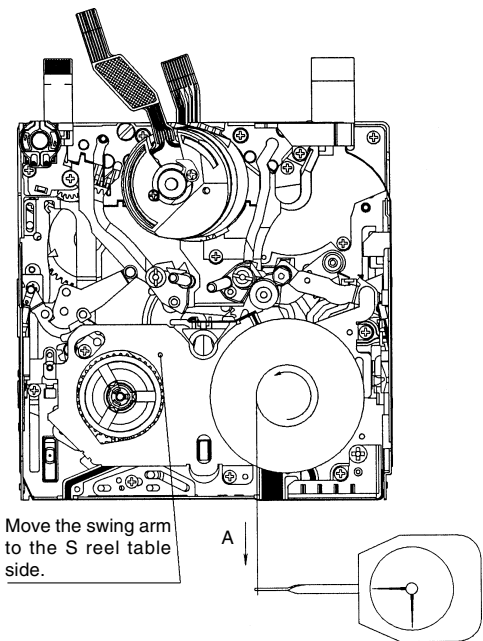

Fig.7 How to measure the loading back tension
- (1) Apply 3 to 4V DC to the loading motor and select the L start mode. (See 9-1.)
- (2) Move the swing arm to the S reel table side. At this time, take care not to damage the gears etc. (See Fig.7.)
- (3) Set the reel hub for back tension measurement on the Tu reel table.
- (4) Using the dial tension gauge, pull the thread of the reel hub in the direction shown by Arrow A and check that the tension is within spec.